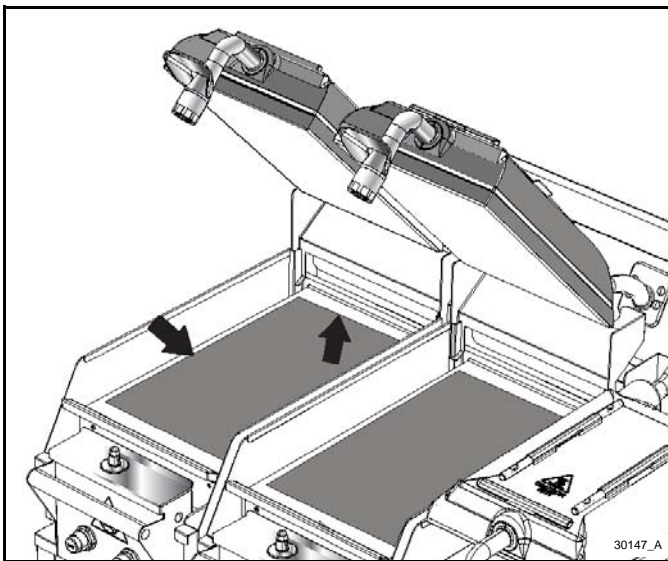

Figure-37
- With the 12 in. (305 mm) side of the lower release sheet facing the back of the grill, hold the release sheet about 1 in. from the end of each side. Align the back edge of the release sheet with the back splash and the side edge of the grill. See Figure-37.